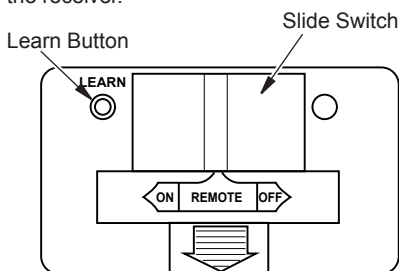

Figure 28 - Receiver
2. Place the slide switch on the receiver in the remote position (see Figure 28).
4. Press the ON button on the remote (see Figure 28). You will hear a series of beeps. Your appliance should come on.